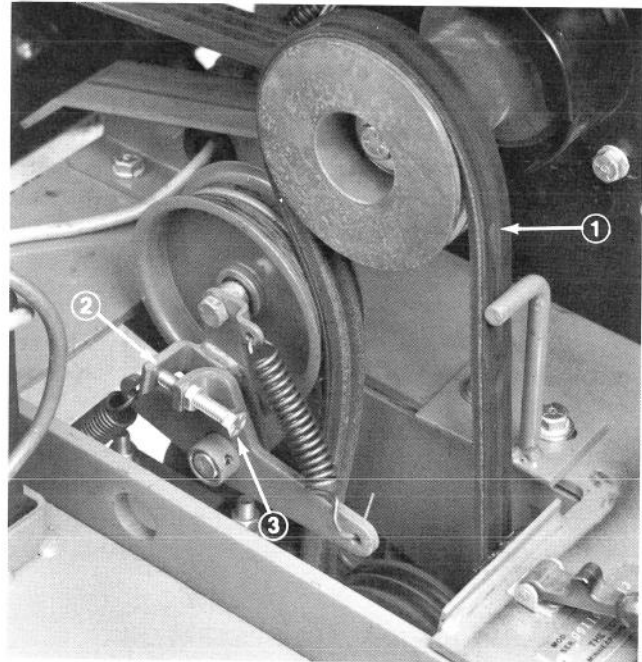

Figure 39
2. The transaxle belt (Fig. 39) is properly adjusted when there is a gap of 1/4" between drive take up bracket and end of step bolt, when clutch is engaged.